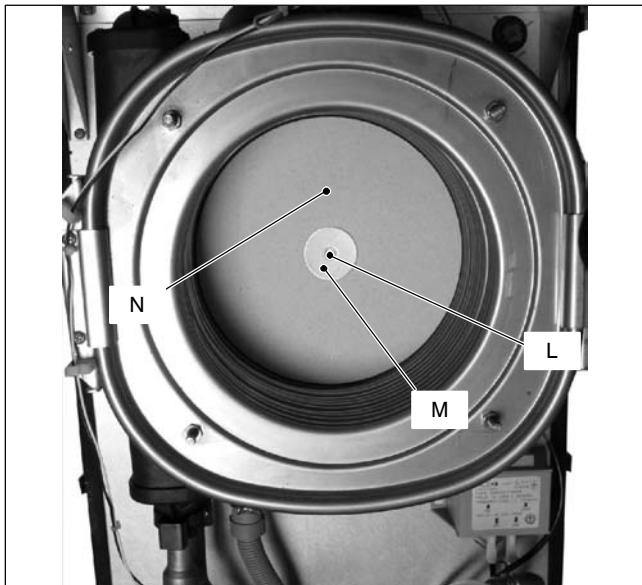

Fig. 18.7
- 2 Unscrew the screw *L*, remove the washer *M* and the rear insulation *N* (Fig. 18.7).
**The rear insulation (Fig. 18.7) must be replaced if damaged or wet**